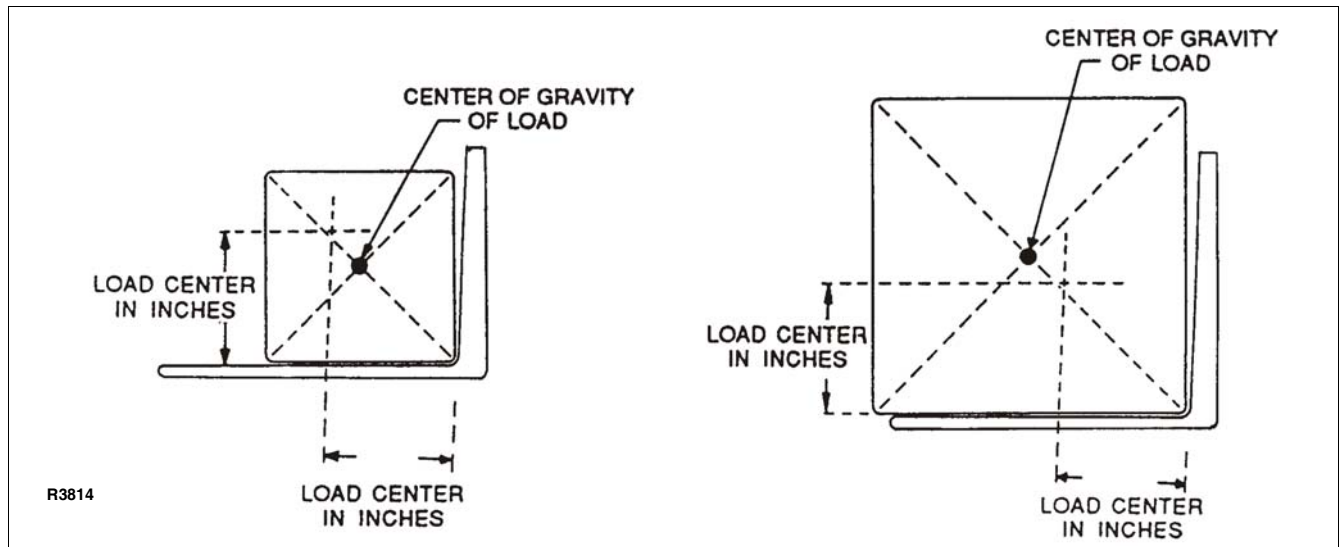

Figure 2-1 Load Center
- Center and carry the load as far back as possible toward the lift carriage back rest. The center-of-gravity of the load must not exceed the load center listed on the nameplate. See Figure 2-1 for load center limitations.